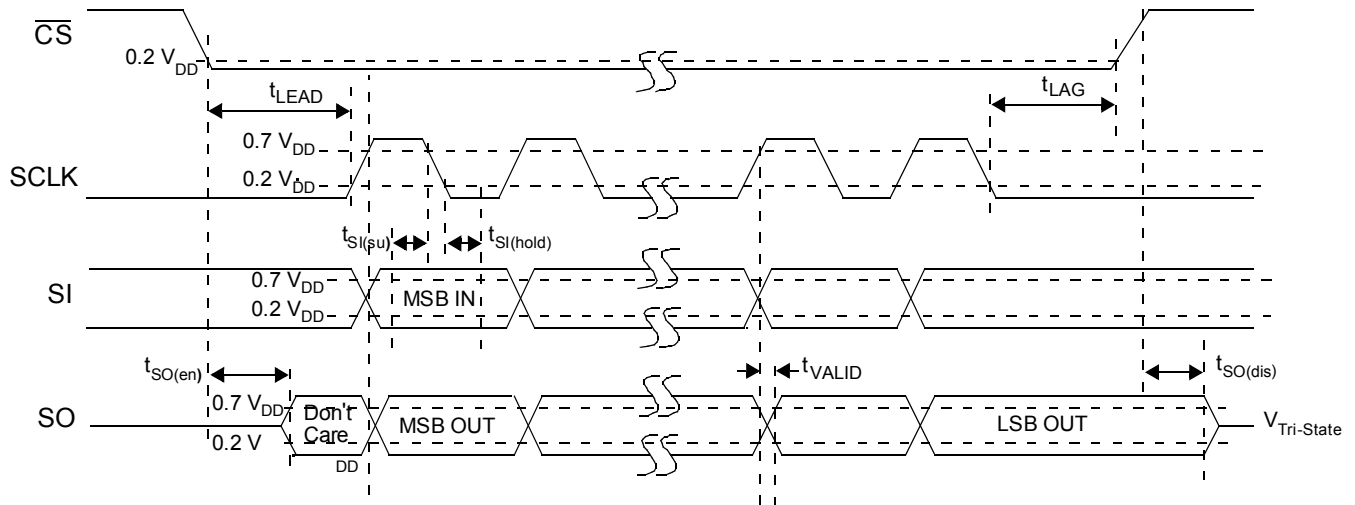

Figure 2. SPI Timing Characteristics
The Serial Input (SI) pin is used to enter one of seven serial instructions into the 33999. SI SPI bits are latched into the Input Shift register on each falling edge of SCLK. The Shift register is full after 24 bits of information are entered. The 33999 operates on the command word on the rising edge of \overline{CS} . To preserve data integrity, exercise care to not transition SI as the SCLK transitions from high-to-low state (see Figure 2, page 8).